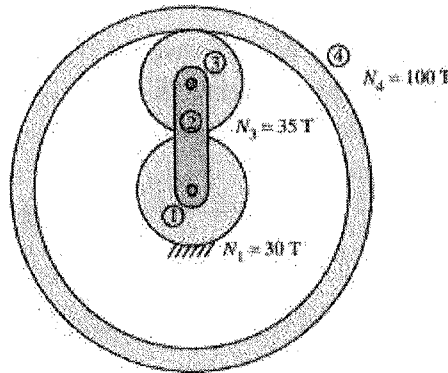

Fig.Q2
- B) In an epicyclic gear train (Fig.Q2), the carrier (link 2) serves as the input of the train. Gear 1 is the fixed gear and has 30 teeth. The gear 3, has 35 teeth. The gear 4, serves as the output of the train and has 100 teeth.